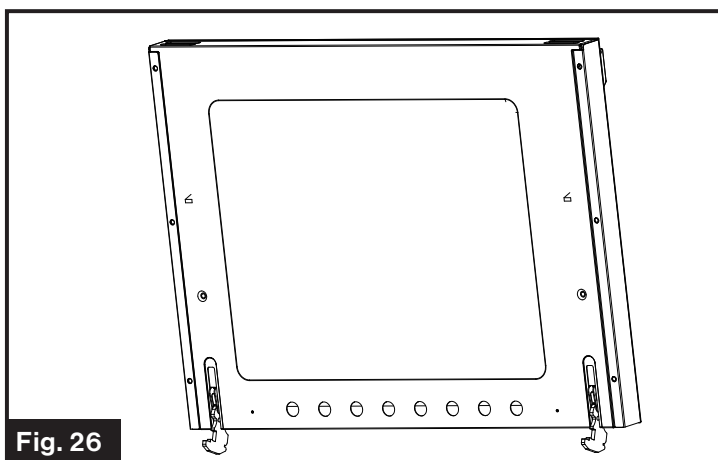

Fig. 26
5. Holding the door firmly on both sides and using both hands, pull the door straight out of the hinge slots. (Fig. 24, Fig. 25 and Fig. 26) Hold firmly, the door is heavy.